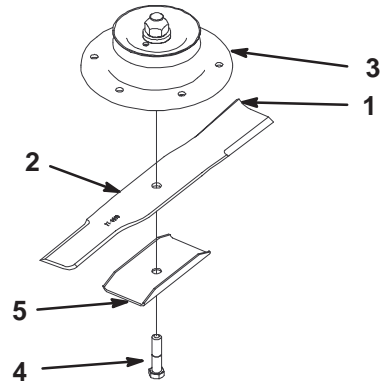
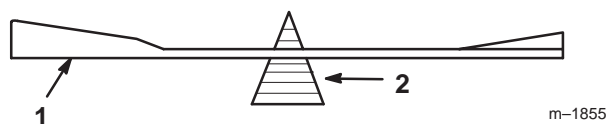

Figure 45
Figure 47
1. Hold the blade end using a rag or thickly-padded glove. Remove the blade bolt, blade stiffener and blade from the spindle shaft (Fig. 45).
2. Check the balance of the blade by putting it on a blade balancer (Fig. 47). If the blade stays in a horizontal position, the blade is balanced and can be used. If the blade is not balanced, file some metal off the end of the sail area only (Fig. 45). Repeat this procedure until the blade is balanced.
1. Install the blade onto the spindle shaft (Fig. 45).
Important The sail part of the blade must be pointing upward, toward the inside of the mower to ensure proper cutting (Fig. 45).
2. Install the blade stiffener and blade bolt (Fig. 45).